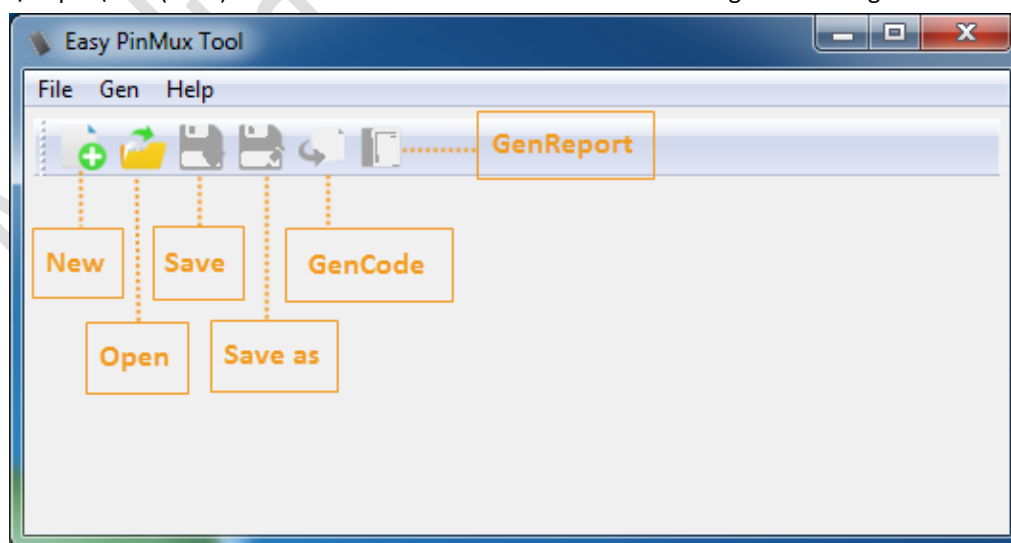
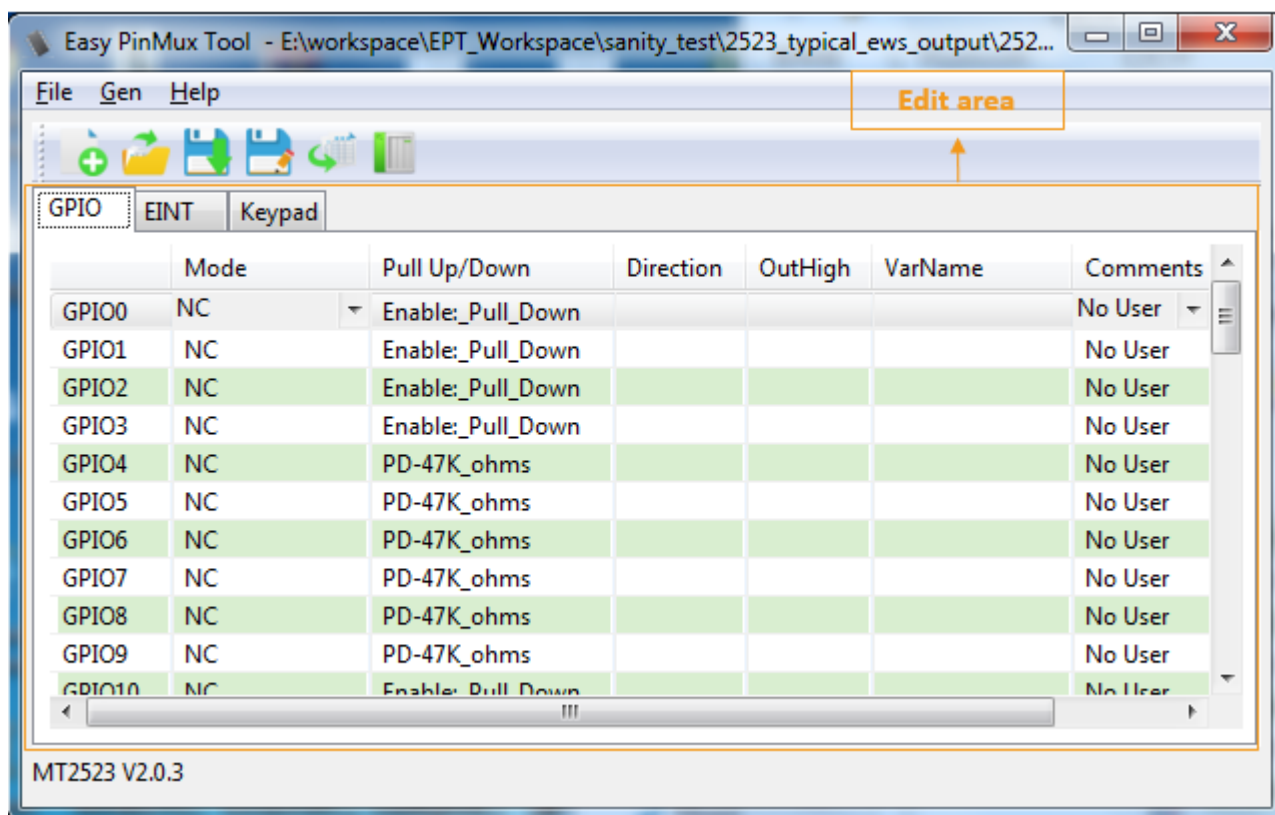

Figure 1. Main UI of the EPT with an empty workspace
Figure 2. Main UI of the EPT with a workspace
- 3) Go to the **Gen** menu and click **GenCode** to generate the source code of the driver stored under \output\7933(768x) folder of the tool. The main GUI is shown in Figure 1 and Figure 2.
Open the **GPIO** page by opening or creating a workspace on the main UI, as shown in Figure 2. This page is used to set the GPIO parameters. The GUI enables setting the **Mode**, **Pull Up/Down**, **Direction**, **OutHigh**, variable name **VarName** and **User Information** for the GPIO pins.